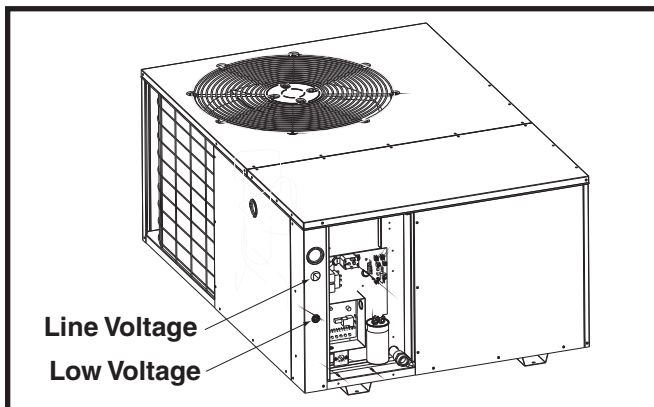

Figure 8. Power Entry
- Provide power supply for the unit in accordance with the unit wiring diagram, and the unit rating plate. Connect the line-voltage leads to the terminals on the contactor inside the control compartment. Extend leads through power wiring hole (Figure 8). Connect **L1 & L2** directly to the contactor.
- The low voltage wires must be properly connected. Route 24V control wires through the sealing grommet (Figure 8, page 8) near the power entrance. Recommended wire gauge and wire lengths for typical thermostat connections are listed in Table 2 (page 10).